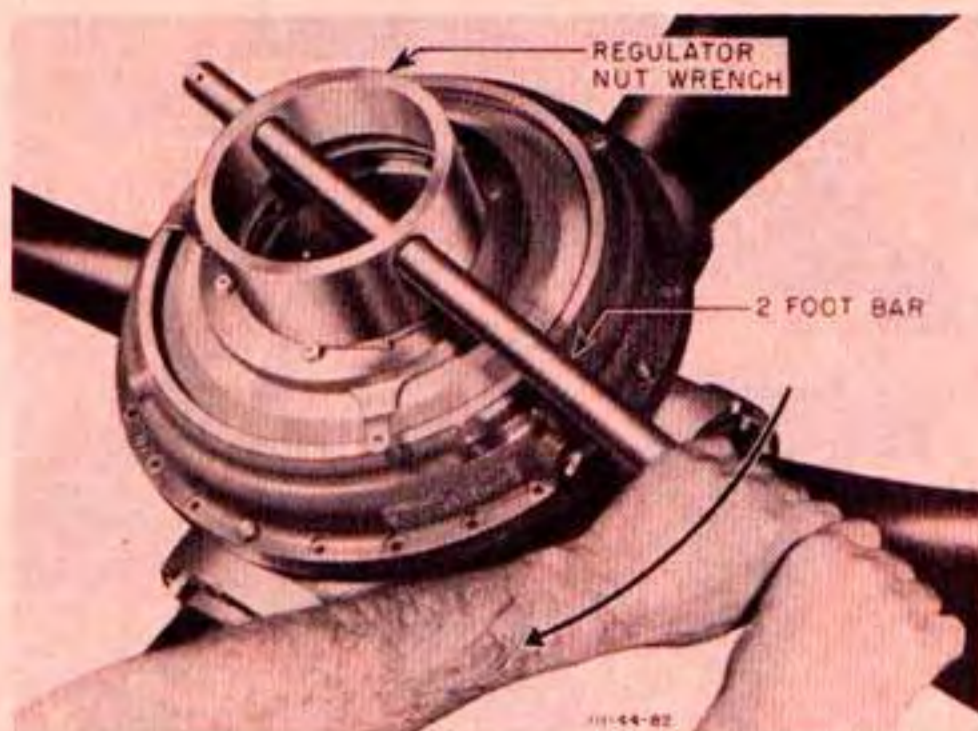
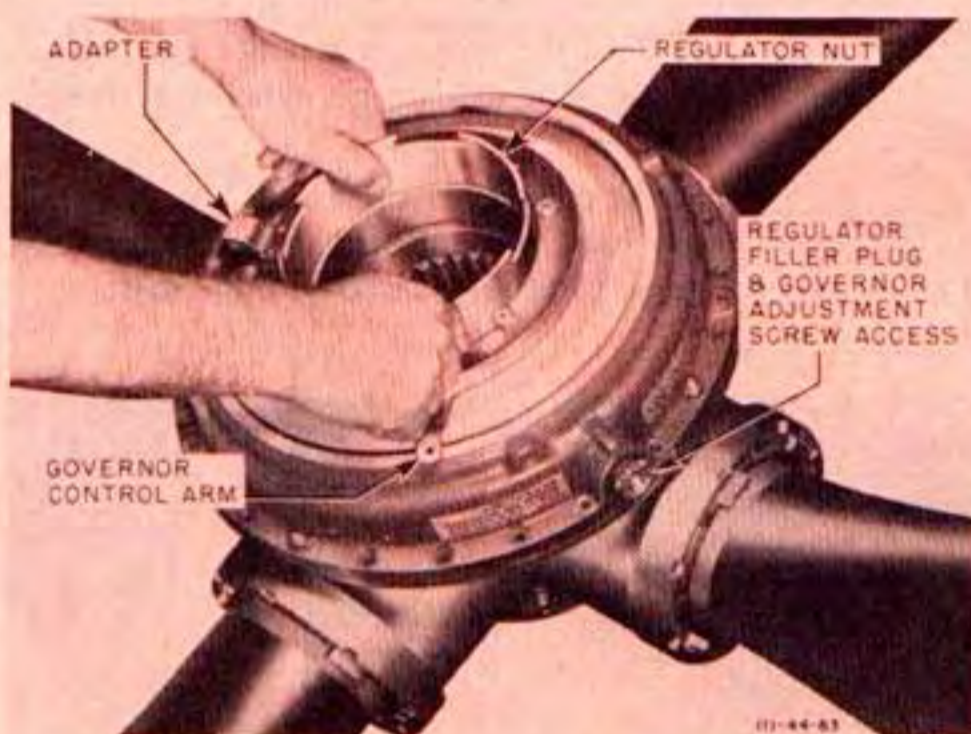

Figure 236H—Loosening Regulator Retaining Nut (Aeroproducts)
Figure 236I—Removing Regulator Retaining Nut (Aeroproducts)
2. As the regulator nut has a left-hand thread, turn the wrench clockwise to loosen. (See figure 236H.) Lift out the regulator nut when free. (See figure 236I.)